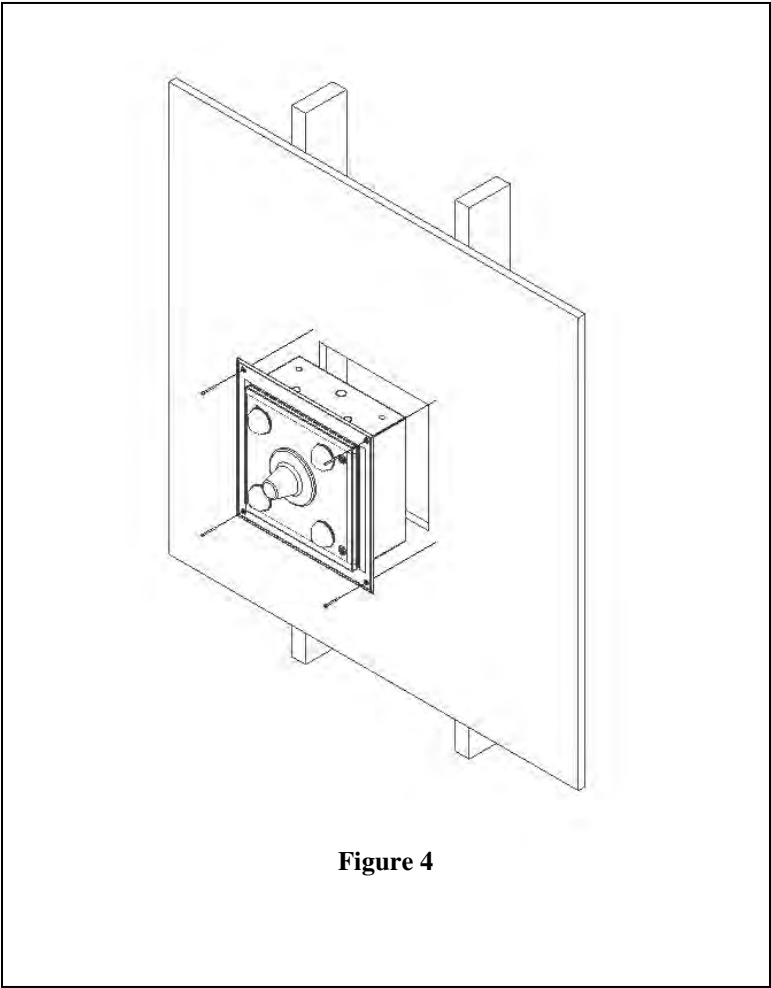

Figure 4
**Step 7** – If stud spacing permits, position the enclosure so that the mounting holes are centrally located with the studs. For metal studs, use #10 sheet metal screws (or, for wood studs, use #10 wood screws). The screws should be a minimum of 2" in length. Make sure that the screw is inserted directly into the stud. Securely tighten the screws after inserting them through the screw snap cap washer, and be sure that the screw is inserted directly into the joist. Press the provided screw snap caps onto the screw head. Alternatively, if no studs are available for mounting, drywall anchors or cinderblock anchors may be used. Be sure to use appropriate hardware for the wall construction type. (Reference Figure 4)